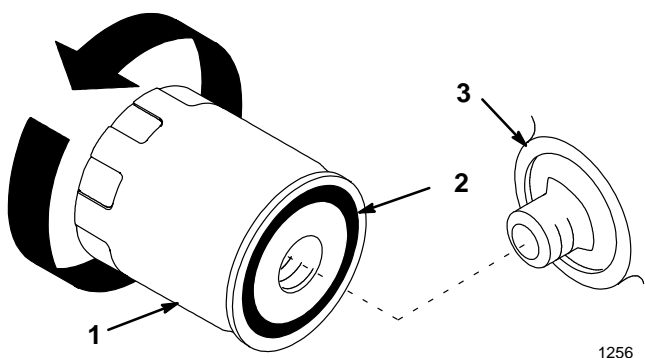

Figure 51
2. Remove the transaxle filter and wipe the filter adapter (Fig. 51) gasket surface.
3. Apply a thin coat of new oil to the rubber gasket on the replacement filter (Fig. 51).
4. Install the replacement transaxle filter to the filter adapter. Turn the filter clockwise until the rubber gasket contacts the filter adapter, then tighten the filter an additional 3/4 turn (Fig. 51).